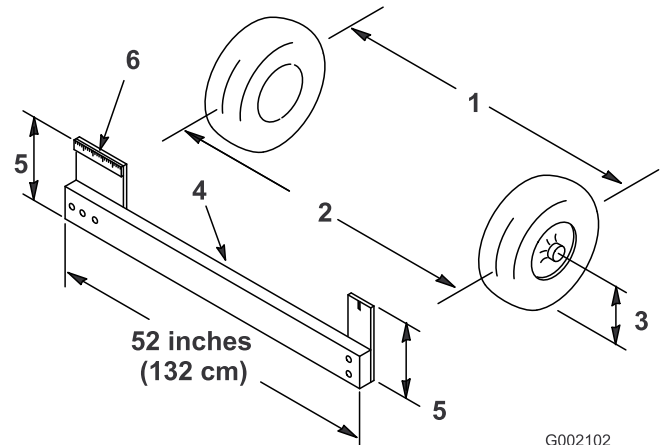

Figure 44
2. Measure the distance between both of the front tires at the axle height at both the front and rear of the front tires (Figure 44). A fixture or alignment gauge is needed for the rear measurement of the front tires at axle height. Use the same fixture or alignment gauge to accurately measure the front of the front tires at axle height (Figure 44).